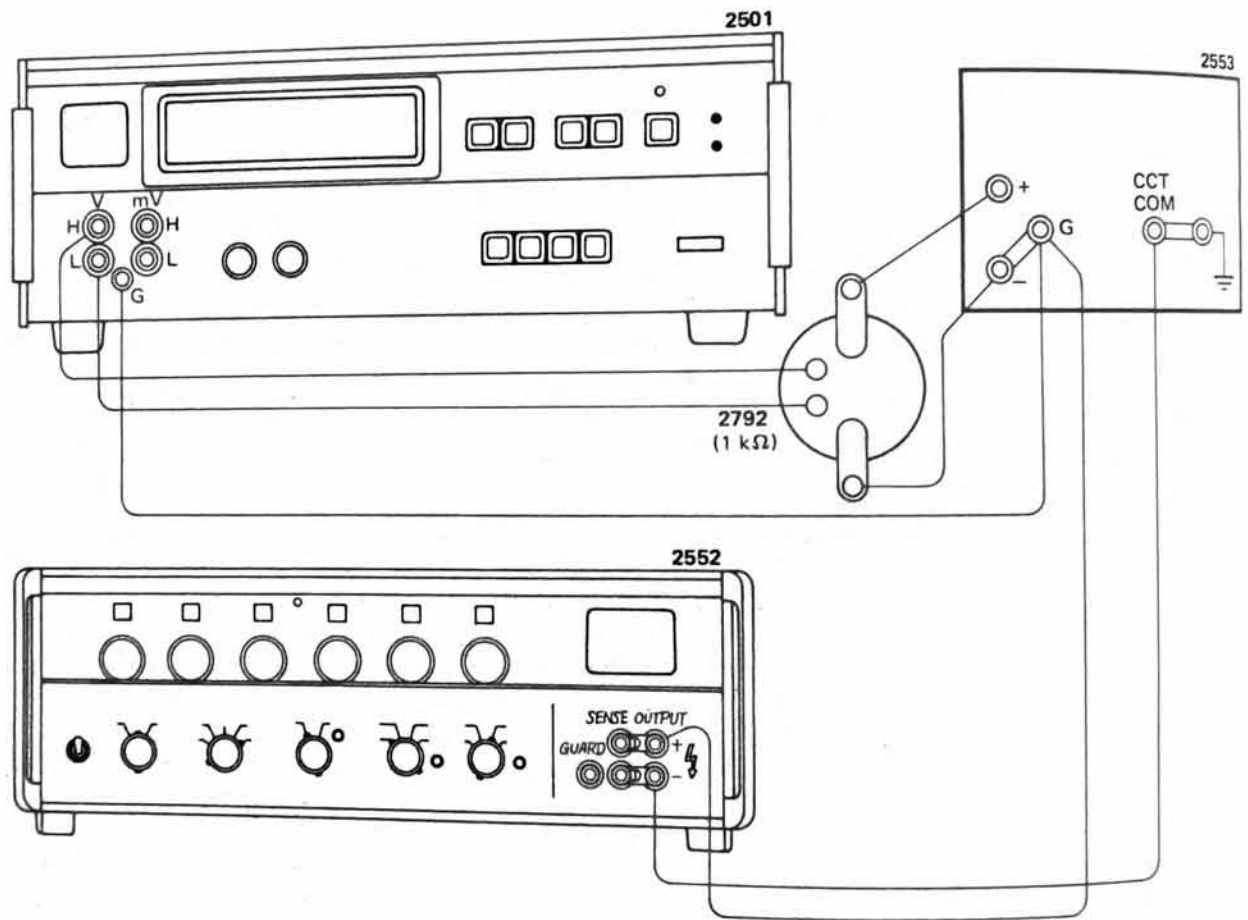

Figure 2-10. Setup for DC CMRR Inspection as Current Standard.
- Connect this instrument, Type 2501, Type 2792 (1 k Ω) and Type 2552 as shown in Figure 2-10.